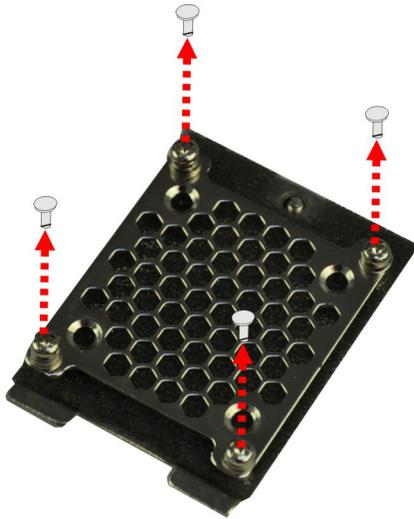

Figure 3-6: Remove the Fan Bracket from the Cover
Step 2: Unscrew the four retention screws that secure the fan bracket to the cover. (Figure 3-6). Remove the fan bracket from the cover.